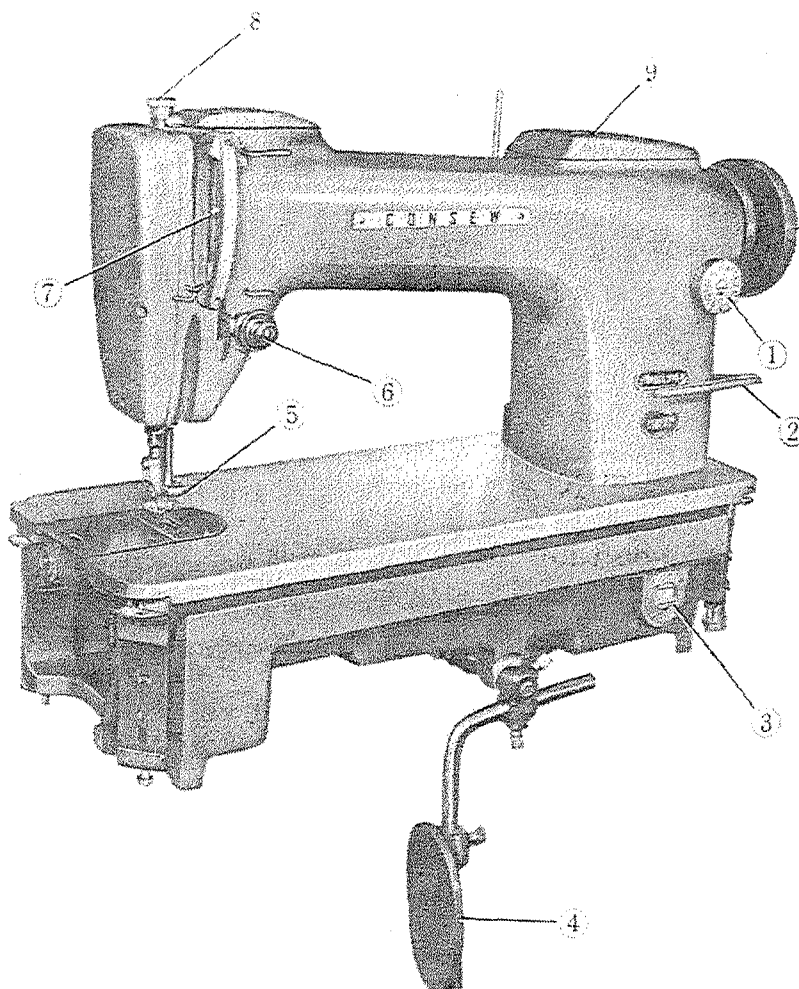

Fig. 1
Oiling of the operating parts of Model 210 machine is entirely automatic. Oil is contained in the oil pan at the bottom of the machine head and is circulated from there to all parts which require lubrication and cooling. The oil pan should be filled with good quality sewing machine oil, either ordinary or stainless type, of a grade similar to SAE10, to the level indicated by the word "High" inside the pan. The upper red line of the oil level indicator (2), (Fig. 1) shows the corresponding oil level. Check oil level daily and never allow it to fall below the lower red line of the oil level indicator or below the "low" mark inside the oil pan. Oil is filled directly into the oil pan when the head is tilted back. Total oil capacity is approximately 1½ pints (24 fl. ounces.)